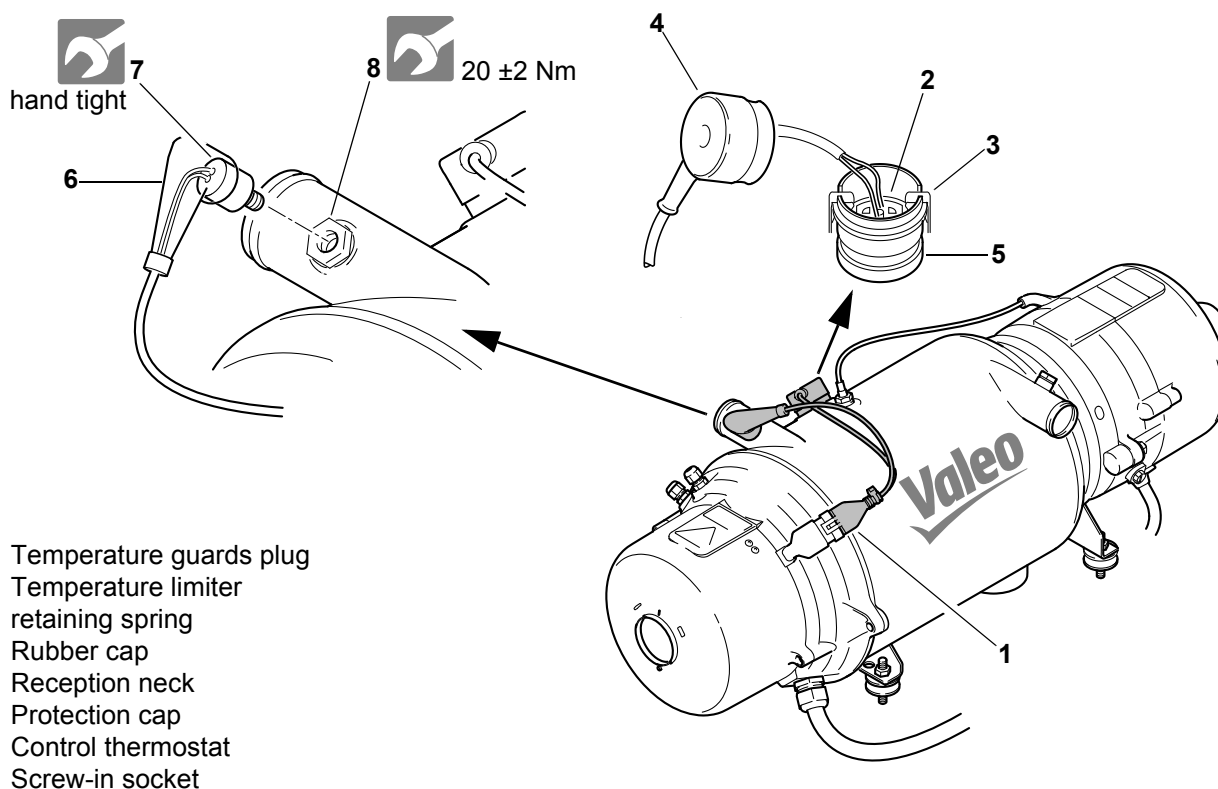

Fig. 801 Removal and installation of the temperature guards
2. Disconnect temperature guards plug (1, Fig. 801).
3. Remove the rubber cap of the temperature limiter (4).
4. Using a screw driver, lever off retaining spring (3) and remove the temperature limiter (2).
5. Remove the protection cap of the control thermostat (6).
6. Screw out by hand the control thermostat (7).
1. Screw the control thermostat (7, Fig. 801) by hand into the coolant inlet.
2. Install protection cap (6).
3. Slide rubber cap (4) of the temperature limiter (2) back until it can be put in its installation position.
4. Position temperature limiter (2) in the reception neck (5) and push in the retaining clip (3).